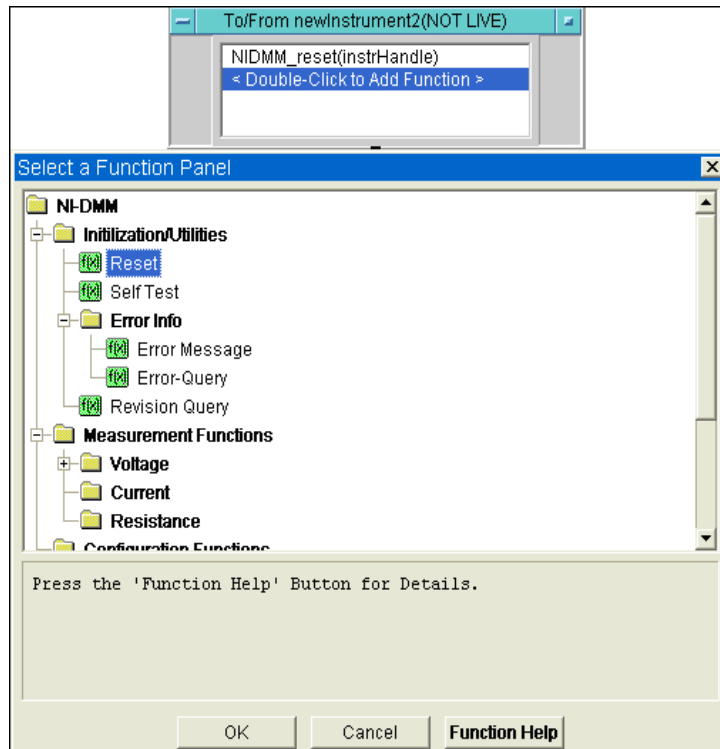

Figure 3-9 Selection of the Function Panel for NIDMM
- 4 5.Select NIDAQ Devices; Add Instrument; select NI-DMM; then double-click to Select the Function Panel; see Figure 3-9.